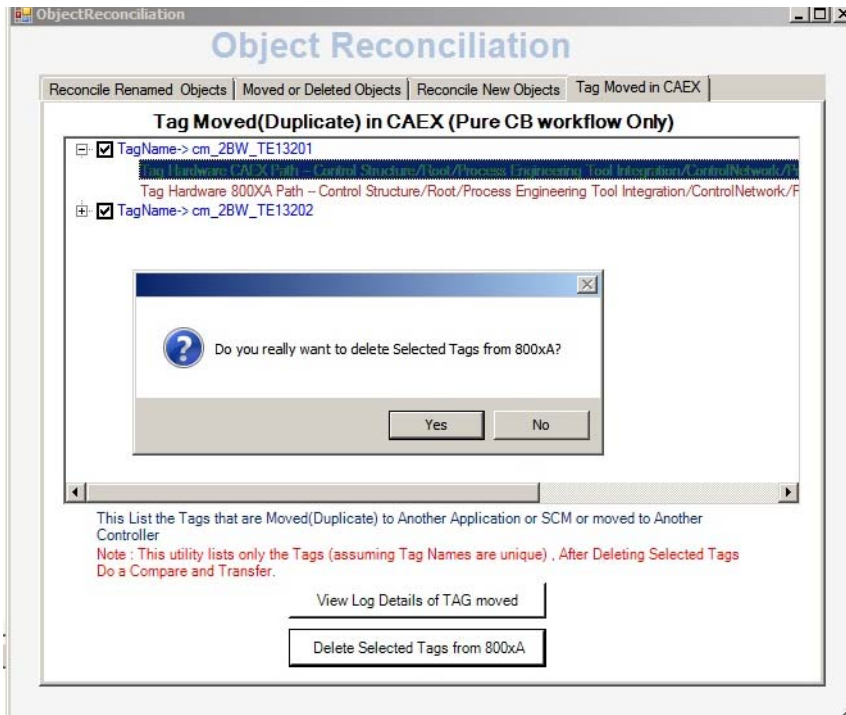

Figure 50. Dialog Box
4. Click **Yes** on the dialog box as shown in Figure 50.